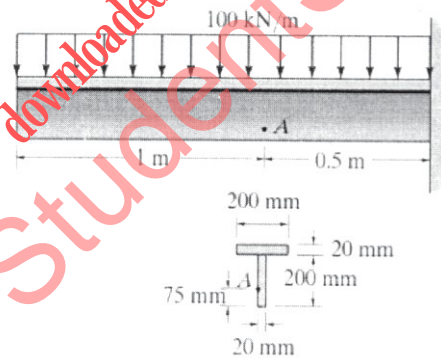

figure 8
- b) The T-beam is subjected to the distributed loading that is applied along its centerline as shown in figure 8. Determine the principal stress at point A and show the results on an elements located at this point. [9]